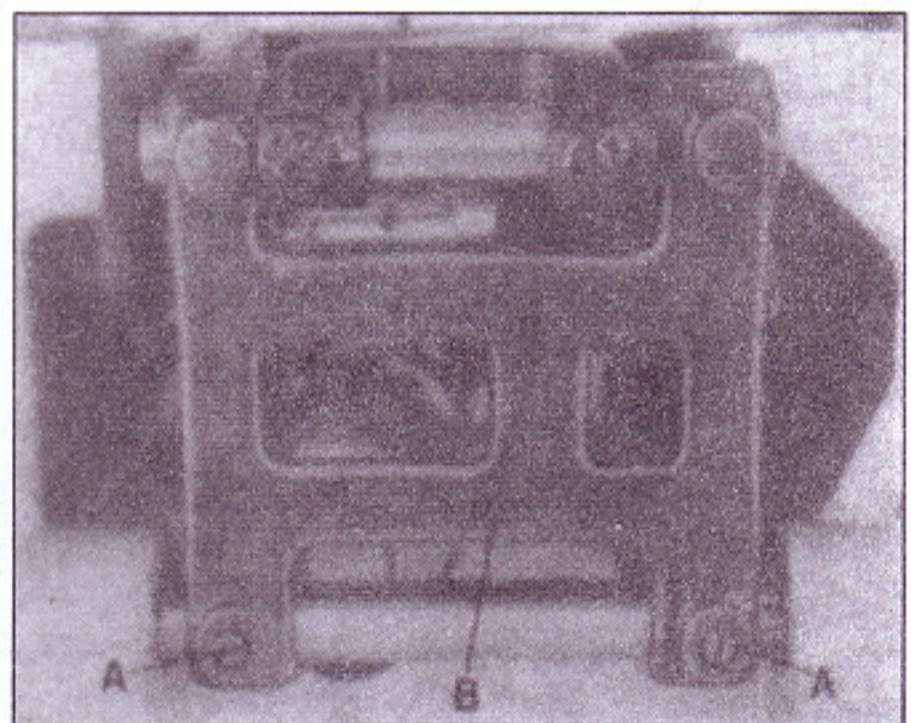

Fig. 6
After loosening screws (A, Fig. 6) rear in the feed rocker (B), the feed bar with feed dog can be moved laterally to center the feed dog in the throat plate slots, if required. Retighten screws (A).